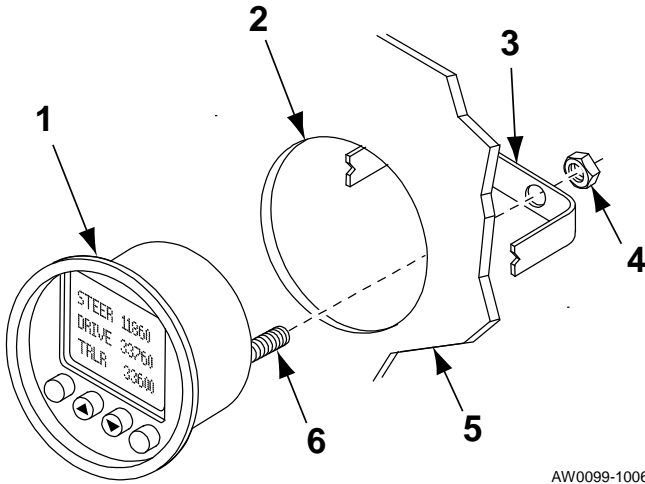

Figure 2. Installing the Display
A. Preparing the Cab Display for Installation: Numbers called out in refer to Figure 2 unless otherwise stated.
1. Select a location for the display (1) on the dash panel (5) with at least 3-inch clearance behind the dash panel for the unit and its connections. A higher dash position provides better visibility.
2. Cut a 2 $\frac{1}{8}$ -inch hole (2) in the dash at that location.
3. Remove the hex nuts (4) from the studs (6) on the back of the display (1) to release the mounting bracket (3).
1. Position the display (1) in the hole (2) so that it appears level on the dash, as shown in **Figure 2**.
2. Reinstall the mounting bracket (3) on the back of the display and secure with two nuts (4) on the display studs (6). Tighten the nuts and secure the display to the dash using 6 ft-lbs. of torque. **Do not over tighten the mounting bracket nuts.**